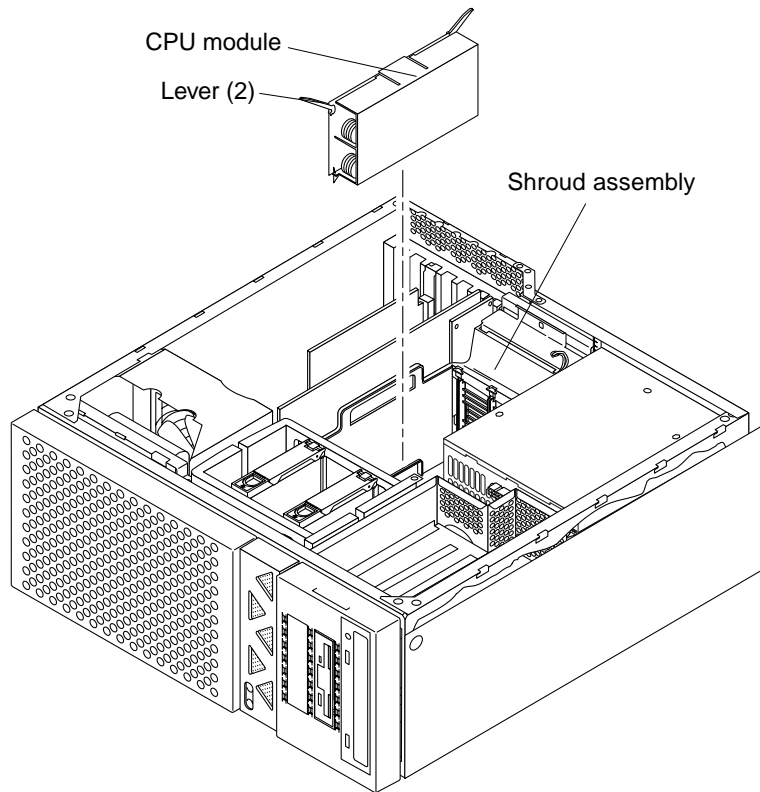

FIGURE 10-1 Removing and Replacing the CPU Module
4. Remove the CPU module as follows (FIGURE 10-1):
1. **Replace the CPU module as follows (FIGURE 10-1):**
- c. **Lower the CPU module along the vertical plastic guides until the module touches the motherboard slot socket. Lock the CPU module in place as follows (FIGURE 10-1):**